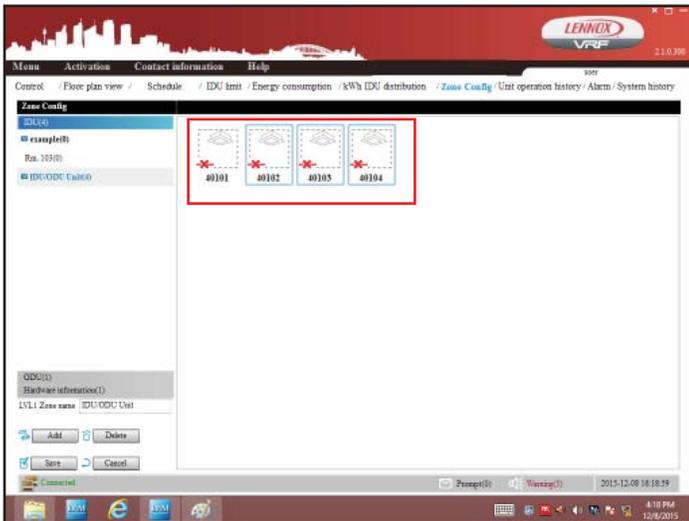

Figure 50. Select Indoor Units to Add
1. Tap the 'IDU/ODU Unit' screen to view any unassigned unit. Tap each unit you wish to assign to a zone. This will place a box around the selected unit. See figure 50.